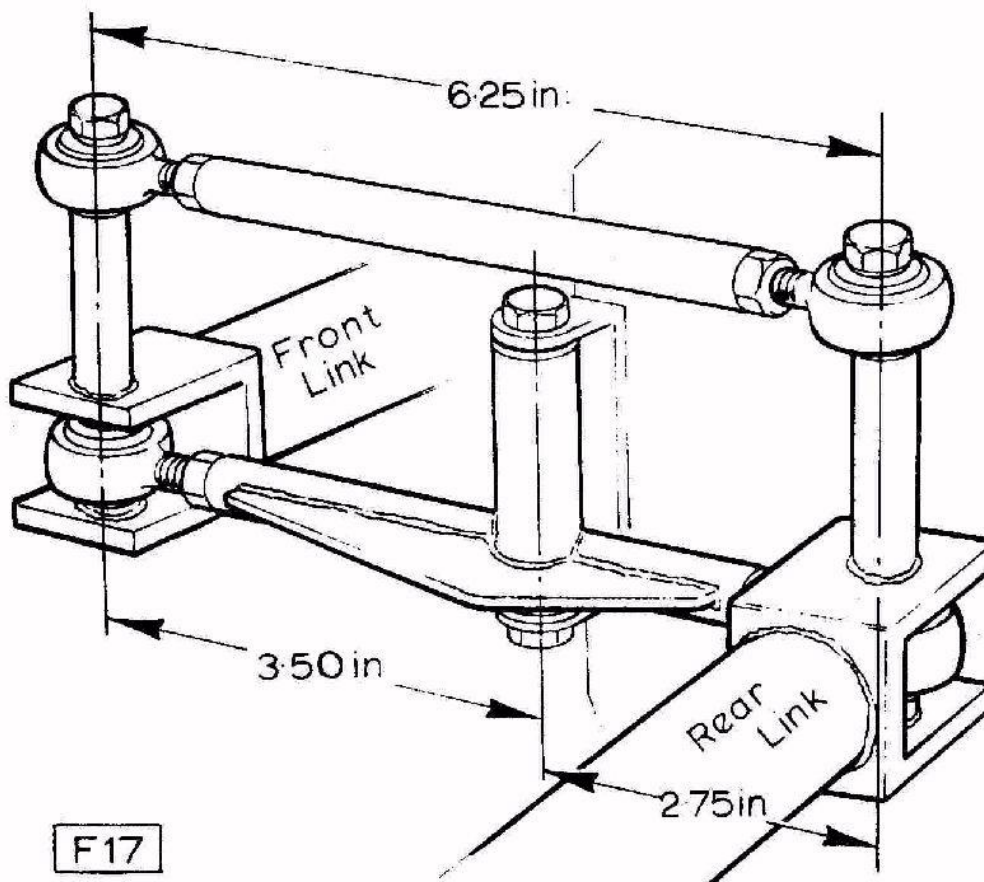

Fig. 110 Setting Dimensions of Gearshift Linkages
10. Attach relay lever (Part No. B054 F 0127) and link tube (Part No. A065 F 0160) to the rear longitudinal link. Attach relay lever to chassis bracket, using the newly drilled holes in the bracket. Attach front longitudinal link to the free ends of the relay lever and link tube. Adjust ball joints (Part No. 046 F 6161) on front and rear longitudinal links and on the link tube to give the dimensions shown in Fig. 110. Liberal greasing of the inner surfaces of pivot tubes (on ends of front and rear links) is desirable, BEFORE inserting the pivot bolts.